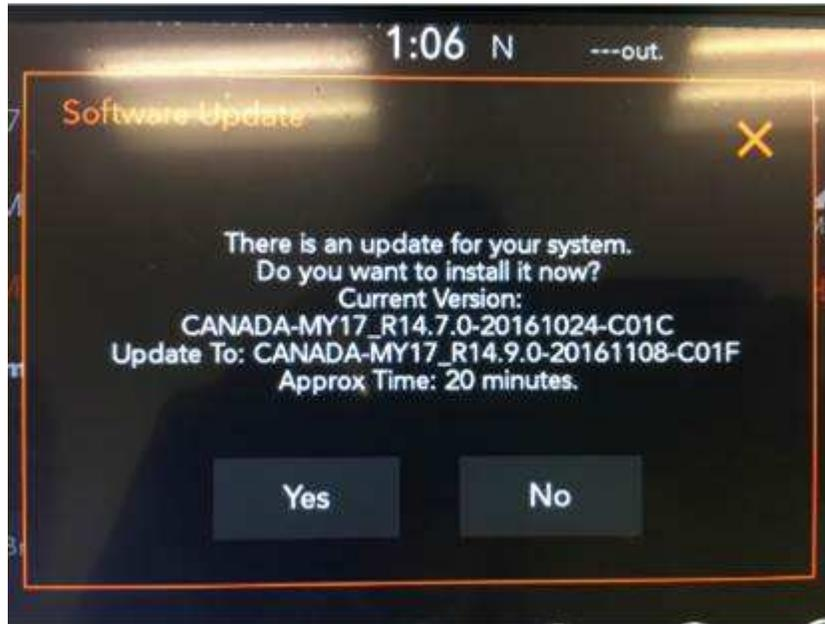

Fig. 7
10. The next screen display will have the old and new software levels (Fig. 7) . The radio will be updated to 18.7.